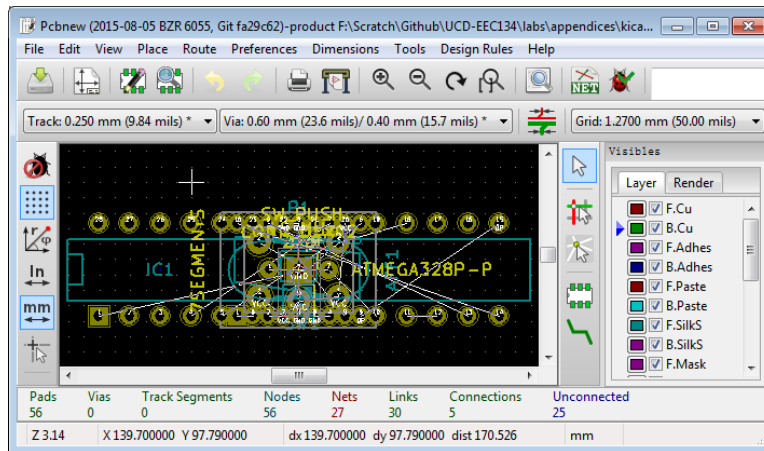

Figure 23: "Rat's nest" of footprints and connections after initial import of the netlist.
4. You should now see a bunch of footprints appear in the upper left corner of the Pcbnew main window (Fig. 23). The electrical connections between the components are shown as thin white lines. This initial blob of footprints and lines are often called “rat’s nest”.